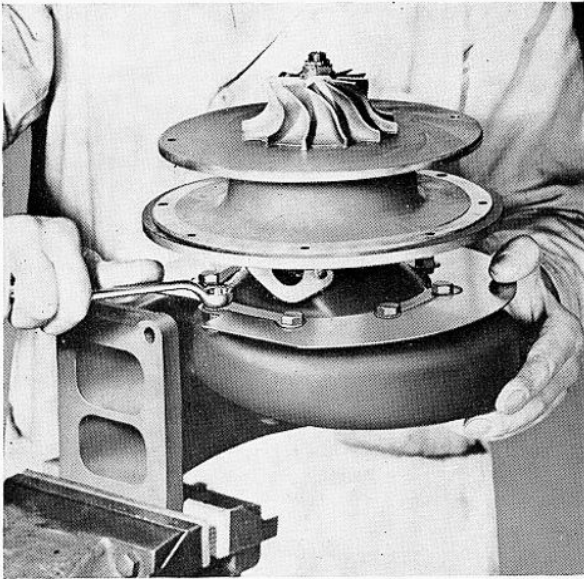

FIG. 8. ASSEMBLING CORE ASSEMBLY TO TURBINE HOUSING
3. Assemble pre-assembled unit to the turbine housing with lock plates and cap screws clamping the external shield (Fig. 8).